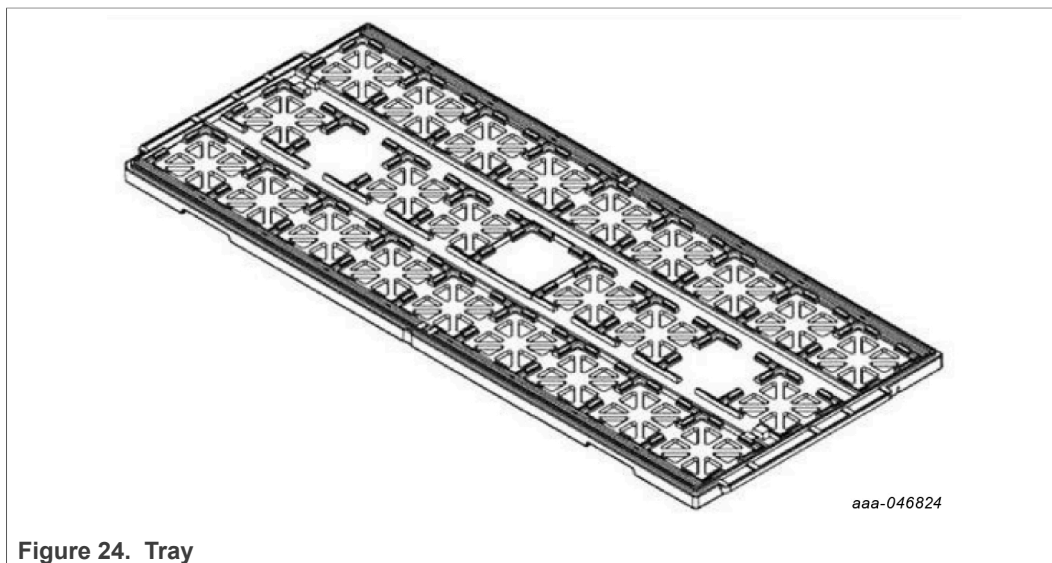

Figure 24. Tray
- NXP complies with standard JEDEC tray design configuration, see Figure 24.